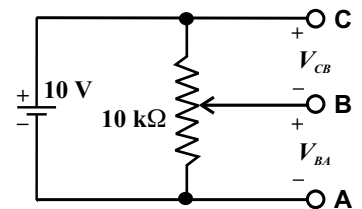

Figure 9
1) Construct the circuit shown in Figure 9. Set the supply voltage with a DMM.